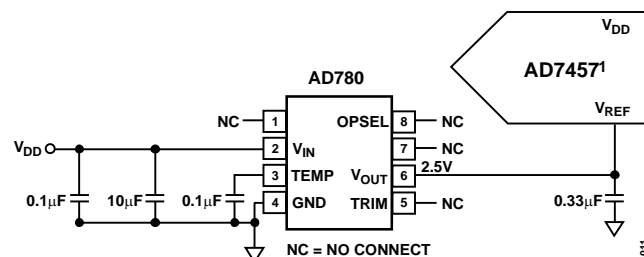

Figure 22. Typical  $V_{REF}$  Connection Diagram for  $V_{DD} = 5\text{ V}$
0.33  $\mu$ F should be placed on the  $V_{REF}$  pin. Suitable reference sources for the AD7457 include the AD780 and the ADR421. Figure 22 shows a typical connection diagram for the  $V_{REF}$  pin.